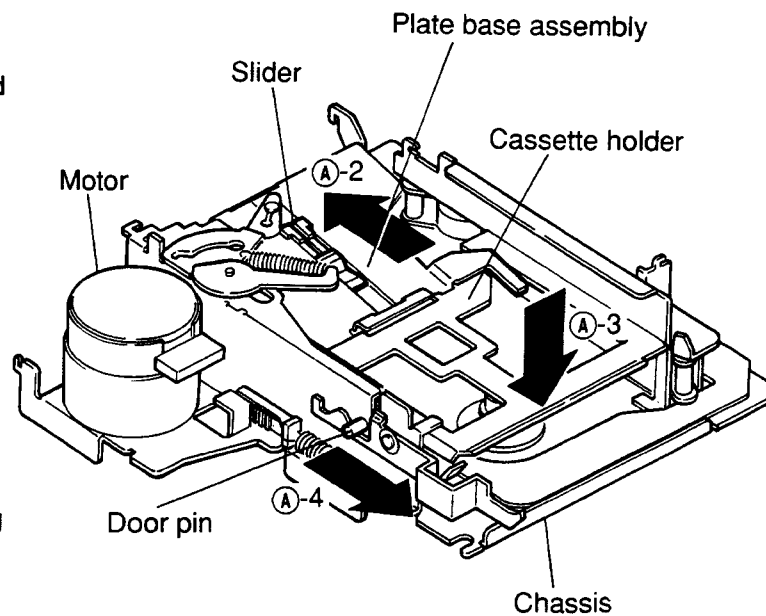

Figure 2
- (5) When remounting the bottom cover, first turn the front of the mechanism up as shown in Figure 2.
- (6) Slide the slider in the direction A-2 as shown in Figure 2.
- (7) Push down the cassette holder in the direction A-3 as shown in Figure 2.
- (8) Pull the door pin in the direction A-4 so that the mechanism is locked in as shown in Figure 2.